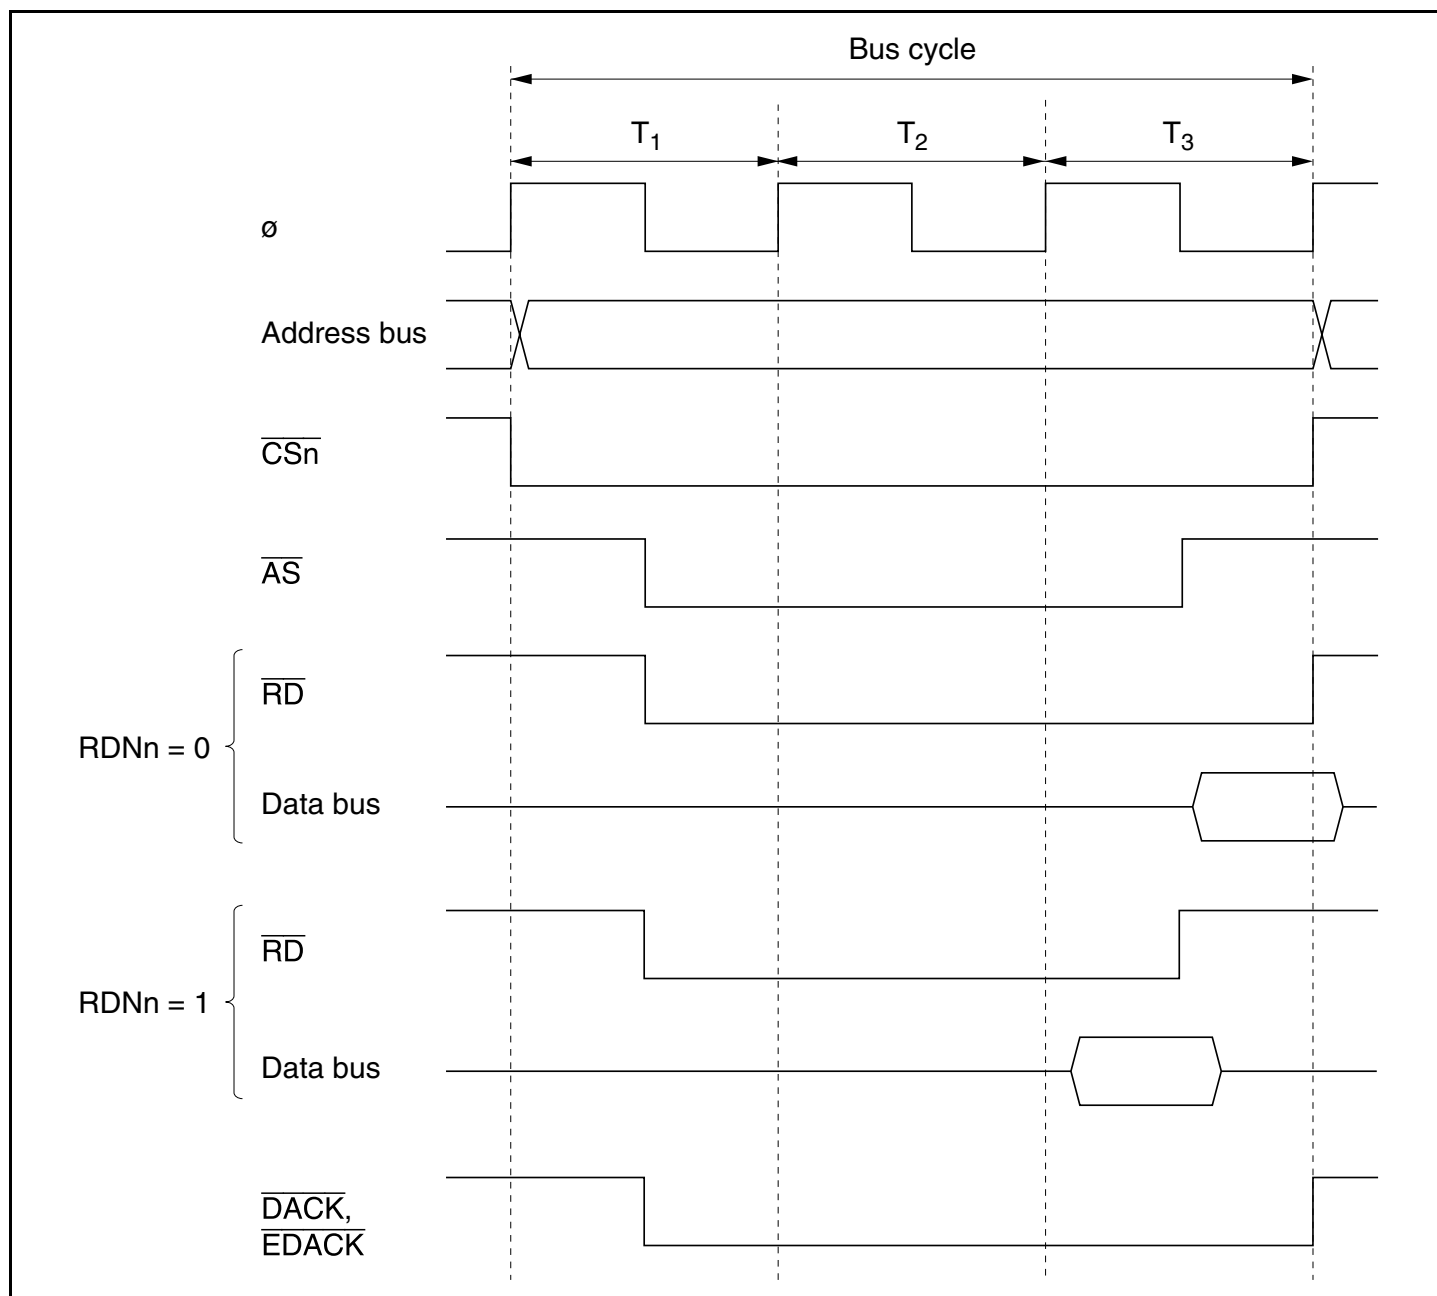

Figure 6.19 Example of Read Strobe Timing
6.5.5 Read Strobe (RD) Timing
The read strobe (RD) timing can be changed for individual areas by setting bits RDN7 to RDN0 to 1 in RDNCR . Figure 6.19 shows an example of the timing when the read strobe timing is changed in basic bus 3-state access space.